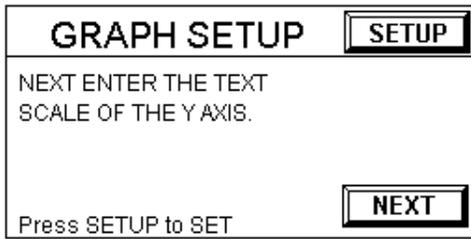

Figure ZD.2-50: Y Axis Text Screen
2) Press “NEXT” five times to skip to the set Y axis label function. The *Graph Setup Screen* changes to describe the setting of the graph Y axis label {Figure ZD.2-50}.